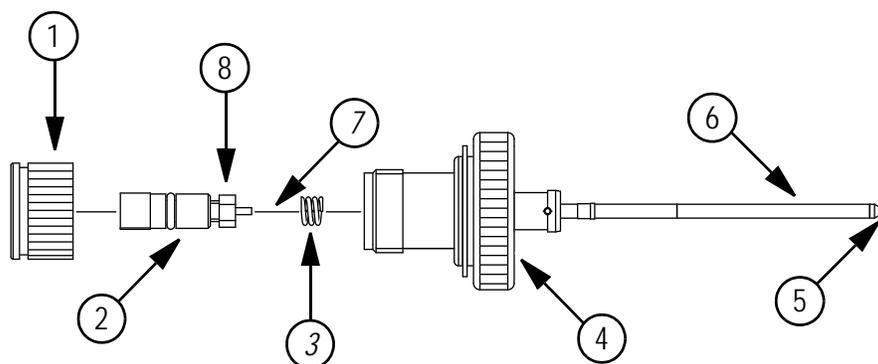

Figure 7-4 Probe - expanded view
3. Remove the electrode adjustment nut. Hold the probe with the tip pointing downwards so the spring remains inside the probe as the electrode tube is withdrawn. Refer to Figure 7-4.
4. Pull the PEEK union and the attached electrode tube from the probe. Refer to Figure 7-4.